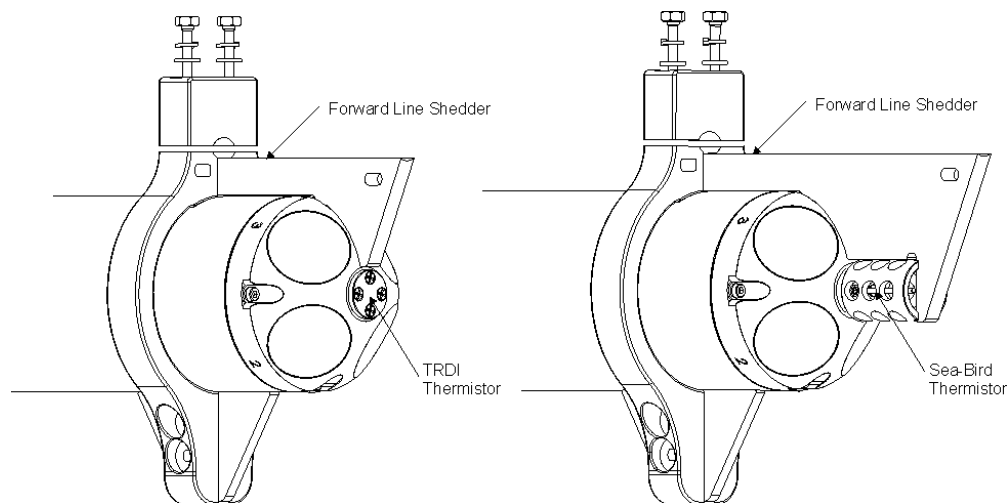

Figure 2. DVS 750 Meter Temperature Sensor Configurations
- The DVS can be configured either with the Sea-Bird SBE38 thermistor or with TRDI's temperature sensor. Depending on the type of temperature sensor used, the Forward Line Shedder will match the temperature sensor outline (see Figure 2). The thermistor is used to measure the water temperature for speed-of-sound calculations and the water temperature data is available in the output data.